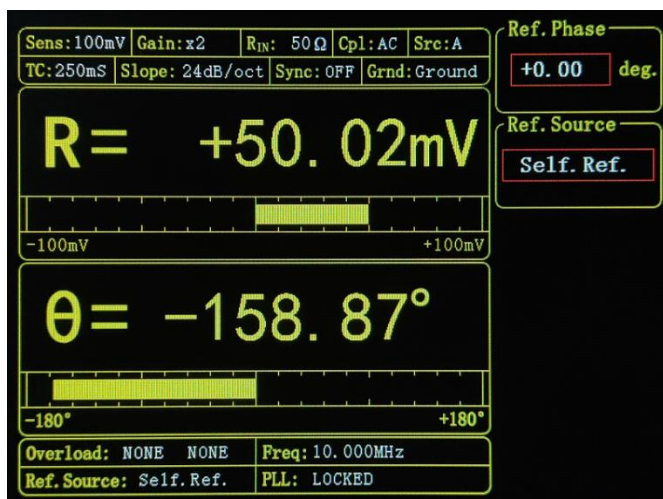

Fig.19 [REF/PHASE] Submenu-<Self.Ref>
- <Self.Ref> Self-reference mode. In this setting, OE2041 will use the signal of the input channel (A, A-B) also as the reference signal for phase locking, when the REF-IN interface is invalid. The interface at this point is shown in Figure 19. It should be noted that when the input signal amplitude is too small or the signal-to-noise ratio is low, the phase-locked loop may be unstable, and the <Self.Ref.> mode is not recommended at this time.